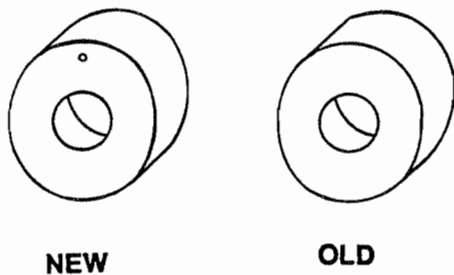

Figure 702. Old and New Cams
- A. Determine if cam (33) is of old or new design. The new design cam can be identified by a 0.06 in. indent on face of cam. (See Figure 702.) Old design cams must be replaced with new style.
- B. If cam is of new design, inspect cam (33) for scratches or other damage which would cause wear of breaker cam follower. Replace cam if necessary.